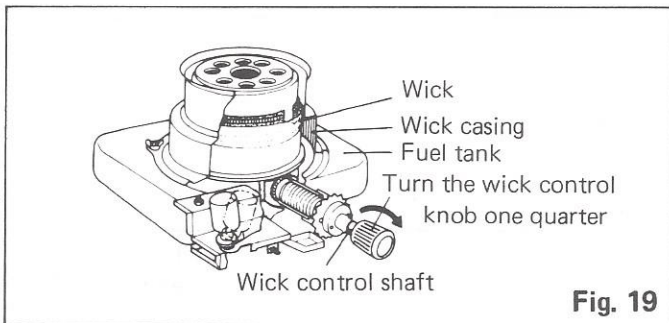

Fig. 19
10. Insert the new wick into the fuel tank, making sure that the wick is fully suspended. As shown in Fig. 19 below, turn the wick control shaft clockwise one quarter of a turn to secure it to the upper end of the wick holder rack.